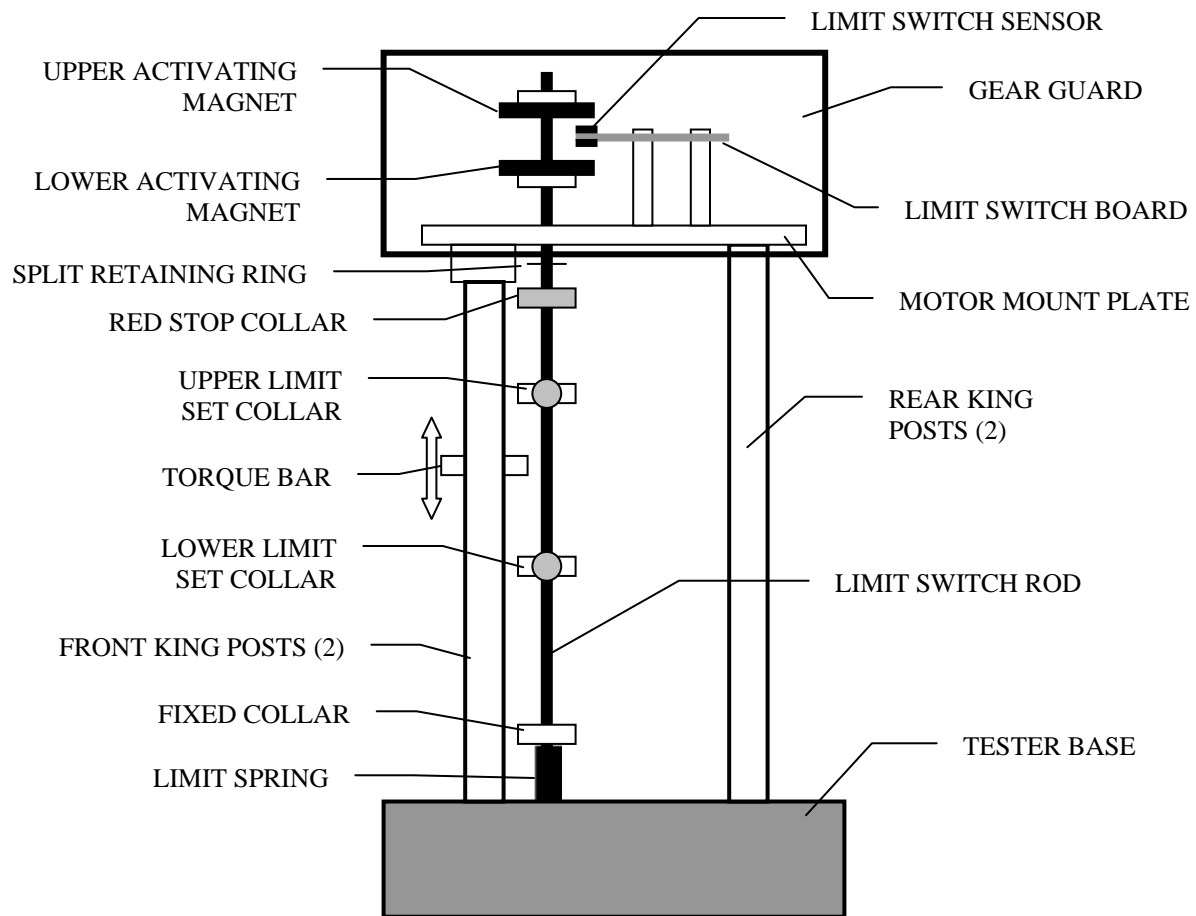

Figure 4.4 – LIMIT SWITCH (SIDE VIEW)
1. Your Tester was shipped from the factory with the Limit Set Collars firmly tightened against the Torque Bar. Refer to Figure 4.4 – LIMIT SWITCH (SIDE VIEW) below. Loosen the Upper Limit Set Collar Thumb Screw and re-position towards the top of the Tester about 2 inches below the Red Stationary Collar; re-tighten the Thumb Screw. This will allow room to move the Test Stand and install the Load Cell.